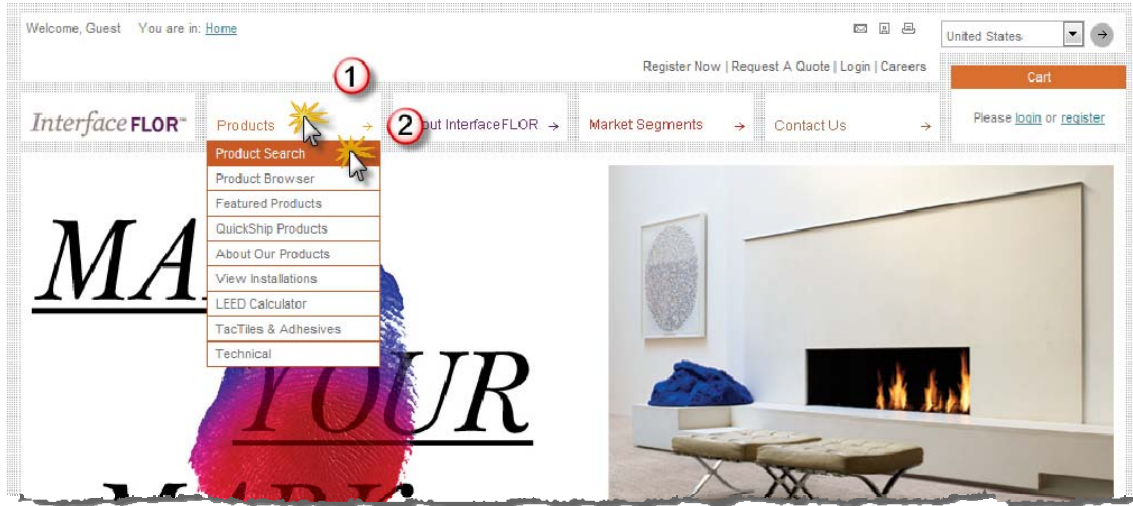

FIGURE 4-3.4 Interface Flor website
9. Hover over the **Products** link, and then click **Product Search** (Figure 4-3.4)